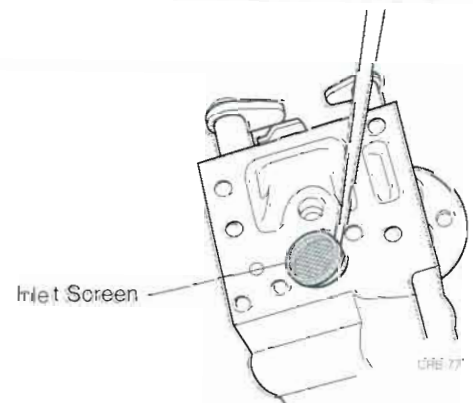

Figure 3.13 Removing the Inlet Screen (HDA shown)
STEP 2. Using a small pick, carefully remove the fuel inlet screen from the pump body (Fig. 3.13).